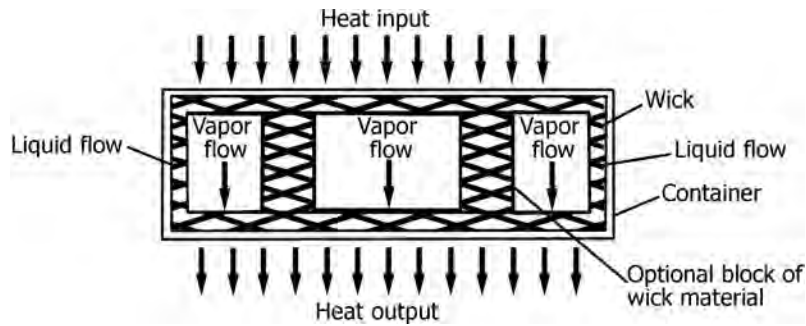

FIGURE 13.20 Flat plate type heat pipe.
- Figure 13.20 illustrates a flat plate heat pipe.